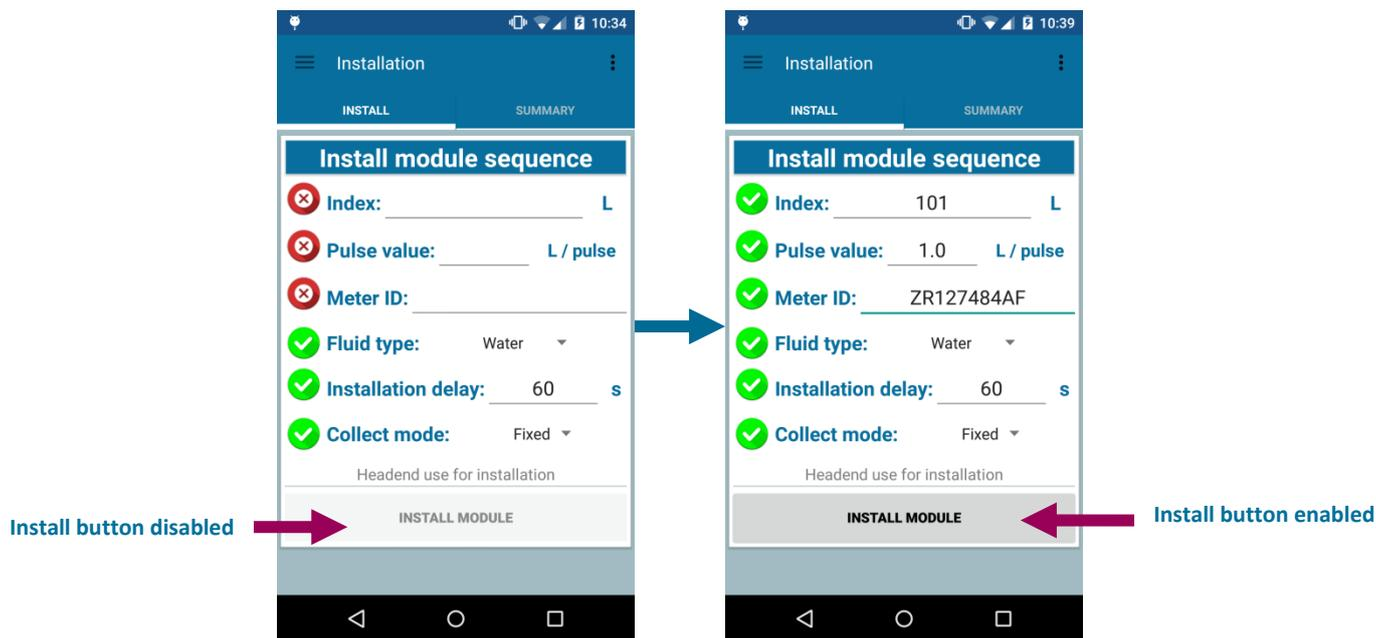

Figure 17: Installation user input
- Once all the parameters are filled-in, the “Install module” button becomes available. If one parameter is missing, the “Install module” button is not available (see Figure 17).